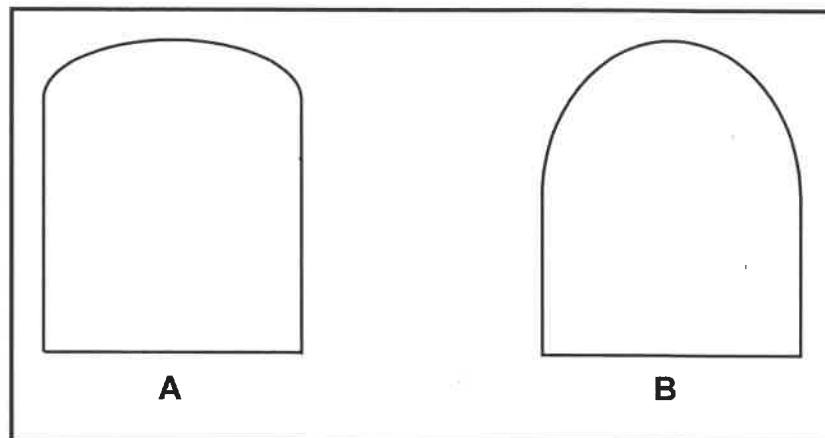

FIGURE 5.2
- D sole plate and the natural ground level. (1)
- 5.2 FIGURE 5.2 below shows the shapes of two arches for which centering must be made. Study the pictures and answer the questions that follow.